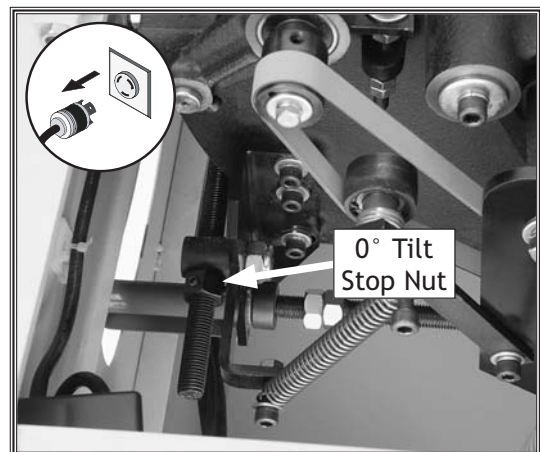

Figure 97. Blade tilt stop nut (0°).
- If the blade is not square to the table, loosen the two set screws that secure the 0° tilt stop nut shown in **Figure 97**.